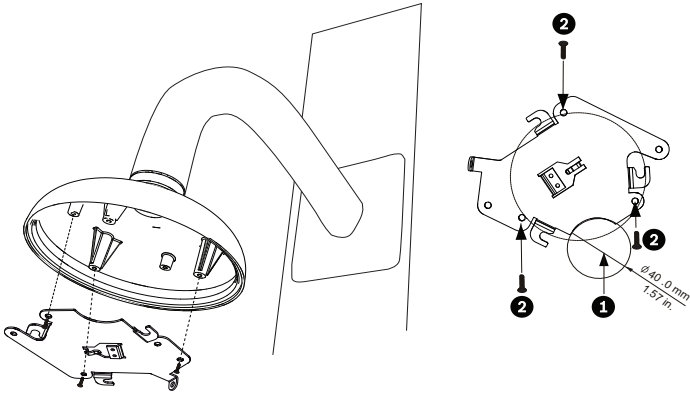

Figure 5.7 Attach Mounting Plate to Dome Cap
2. Route wires on side of mounting plate with crescent shaped cut-out (Ref. #2 *Figure 5.7*).